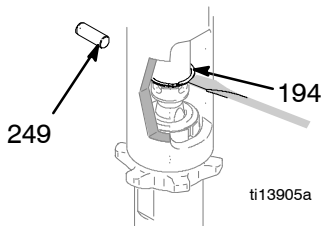
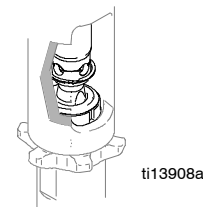

Fig. 8
Fig. 11
4. Fig. 8. Push retaining spring (194) up. Push out pin (249).
2. Fig. 11. Slowly pull engine starter rope until pump rod pin hole is aligned with hydraulic rod hole. Fig. 8. Push pin (249) into hole. Push retaining spring (194) into groove.